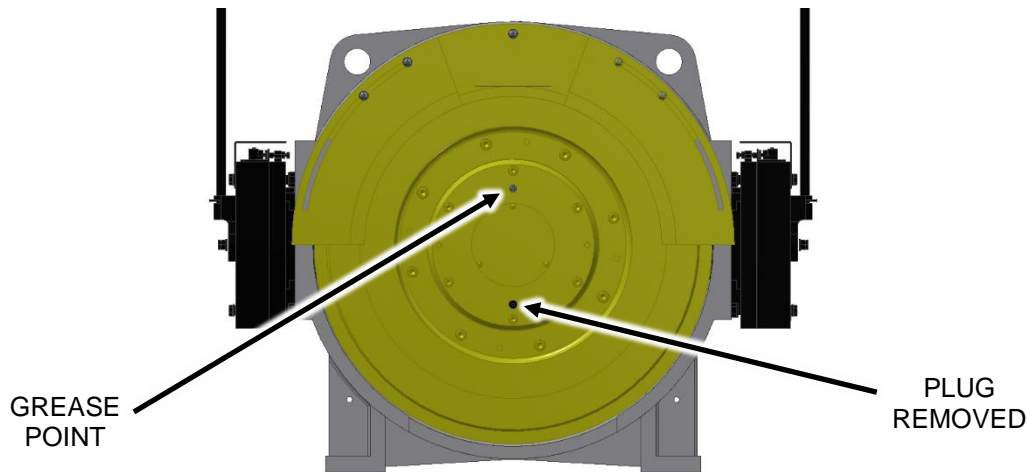

Figure 14
2. The grease point is opposite the relief plug. See Figure 14.